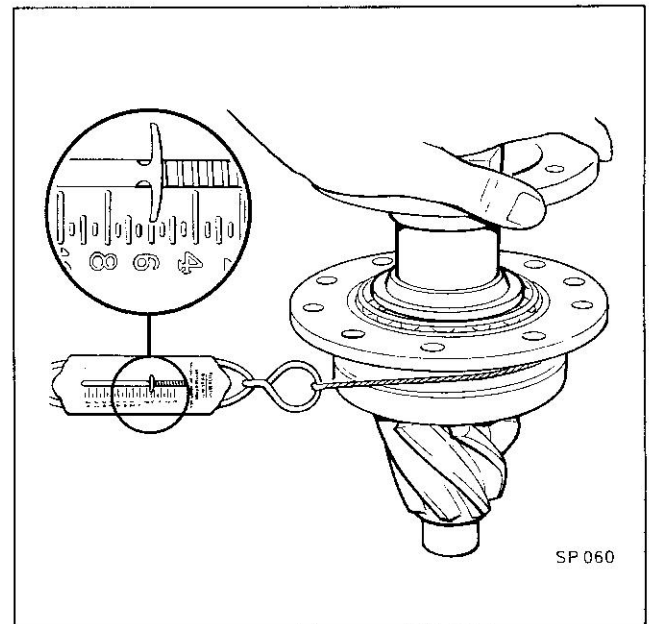

Fig. 7 Bevel Pinion Pilot Bearing
- Wrap a length of cord around the sleeve anchoring the end of the cord in a setbolt hole. Using a spring balance attached to the other end pull tangentially to the outer diameter of the sleeve (Fig. 7).